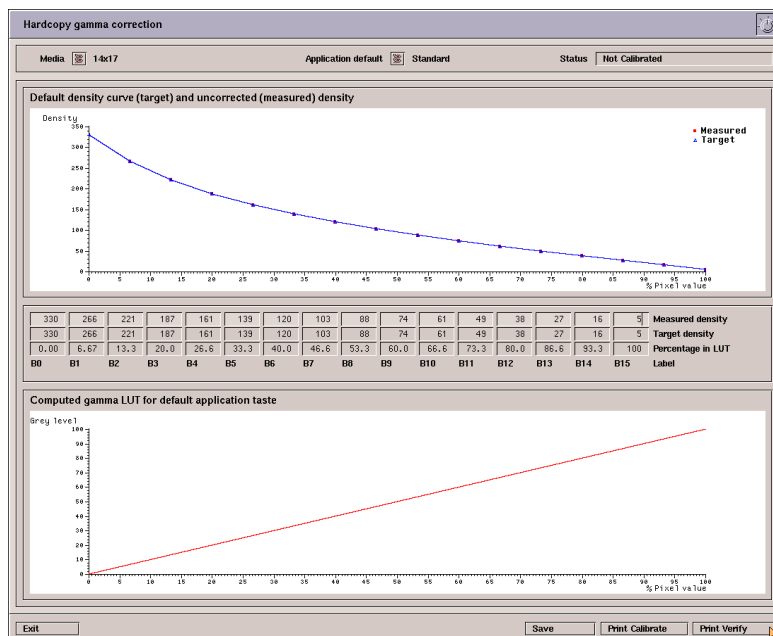

Figure 5: Hard Copy Gamma Correction screen
- Click on the Hard Copy Gamma Correction icon on the icon bar. The Hard Copy Gamma Correction screen will be displayed. (refer to Figure 5: Hard Copy Gamma Correction screen)